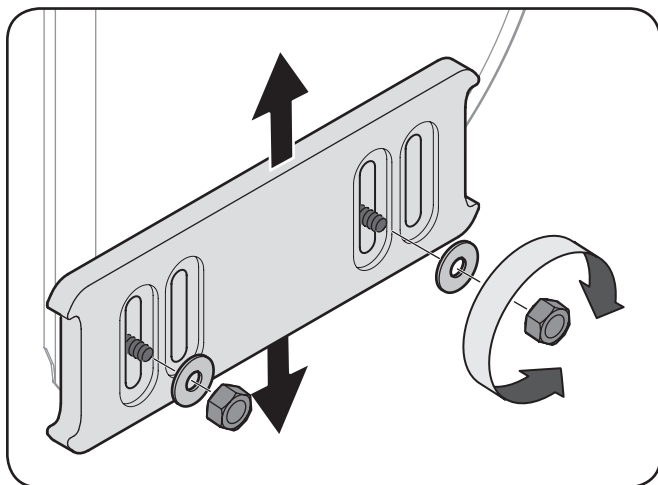
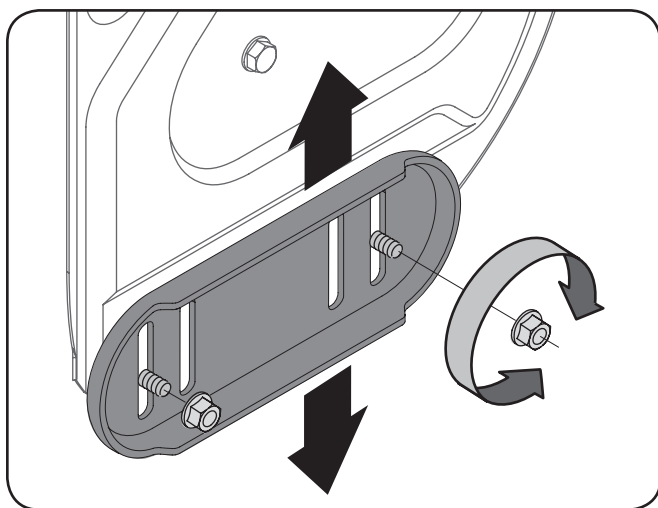

**Figure 3-14**
**Figure 3-15**
1. Loosen the four hex nuts (two on each side), washers (if applicable) and carriage bolts. Move skid shoes to desired position. See Figure 3-14 and Figure 3-15).